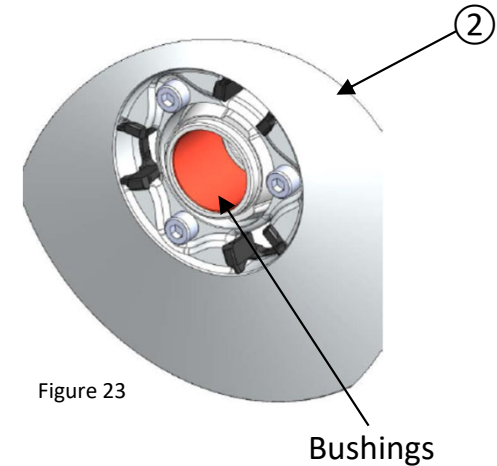
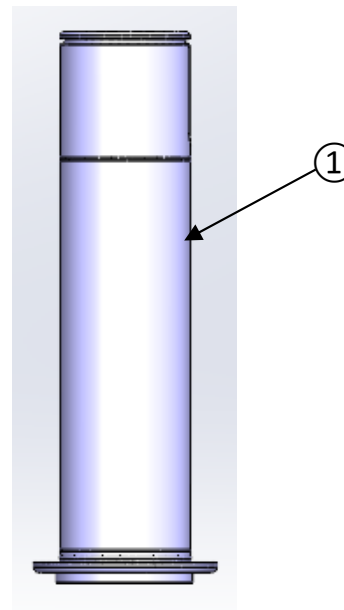

Figure 23
Figure 25
- Check for wear marks on the cam ⑨.
- Check for wear marks on the spring ⑦.
- Check the wear on the bushings of the fixed sheave ② and the sliding sheave ④ (visual inspection only, figures 23 and 24). In case of excessive wear, you must replace the entire fixed sheave ② or sliding sheave ④. Check for wear marks on the shaft assembly ① (figure 25).
The bushings cannot be removed from the fixed sheave ② and the sliding sheave ④ (figures 23 and 24).
The shaft assembly ① can be removed from the fixed sheave ② (figure 25).